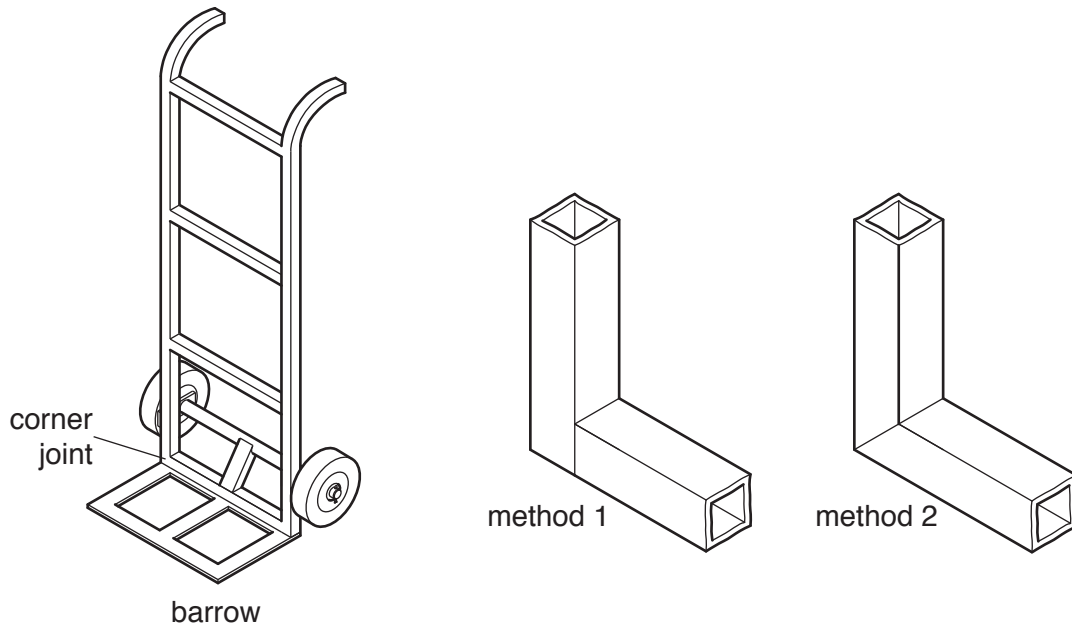

Fig. 6
- (c) Fig. 6 shows a design idea for a barrow for moving heavy building materials. Two methods of cutting the square steel tube to form a corner joint are shown.